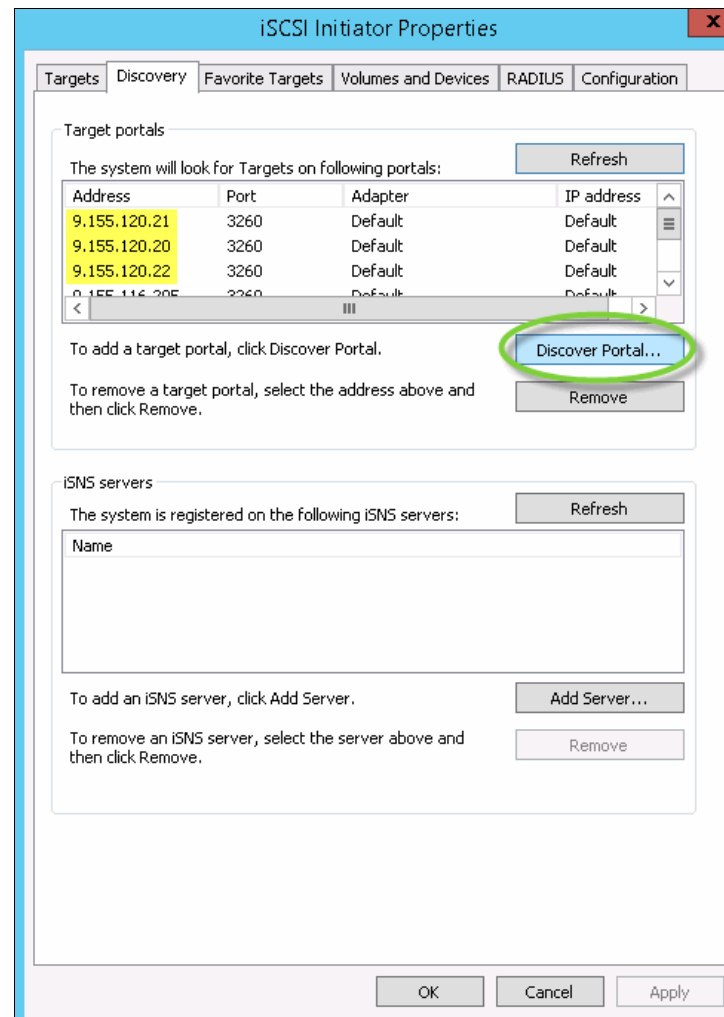
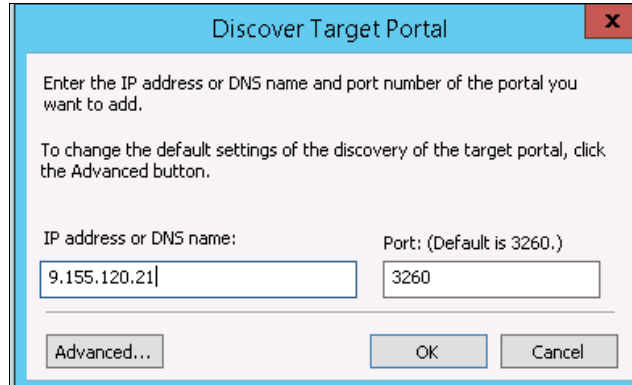

Figure 3-18 Discovering the iSCSI connections
Figure 3-19 Discovering the FlashSystem A9000 iSCSI IP addresses
10. Select **Discover Portal** and enter the IP address of the FlashSystem A9000, A9000R, or XIV system in the resulting window (see Figure 3-18 and Figure 3-19 on page 116).